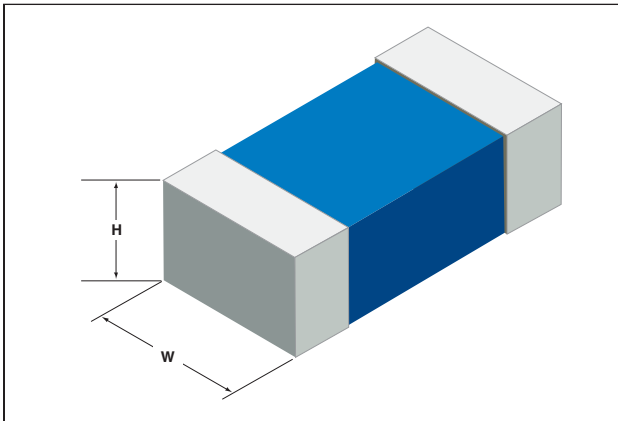

Figure 8-36
- Width (W) to height (H) ratio does not exceed two to one (2:1) ratio; see Figure 8-36.